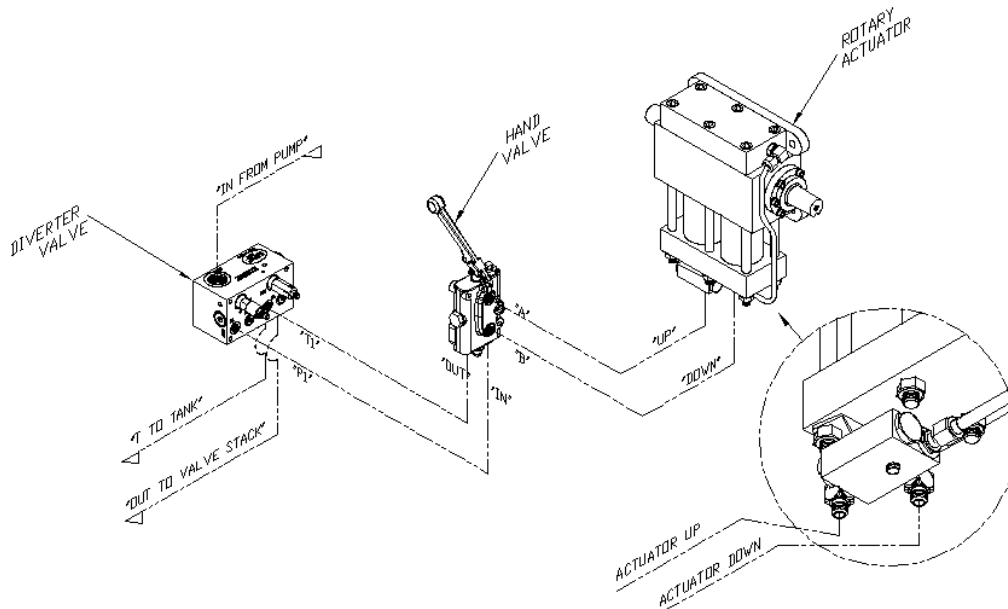

figure I-2
*Before attempting any hydraulic connections, turn the truck's engine off and release all pressure from the hydraulic system. Refer to the hydraulic layout (figure I-2) and hydraulic schematic (Appendix A) while performing the following steps. **Always clean & lubricate fitting threads before installation.***